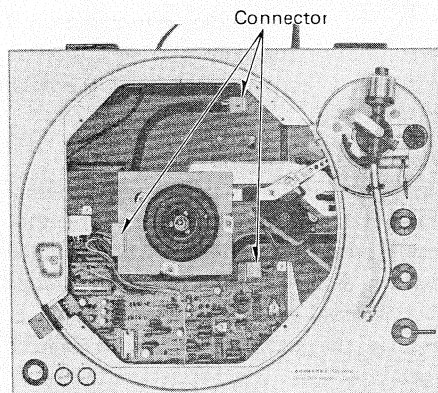

Fig. 4
10. Unplug the 3 plug-in connectors. (Fig. 4)